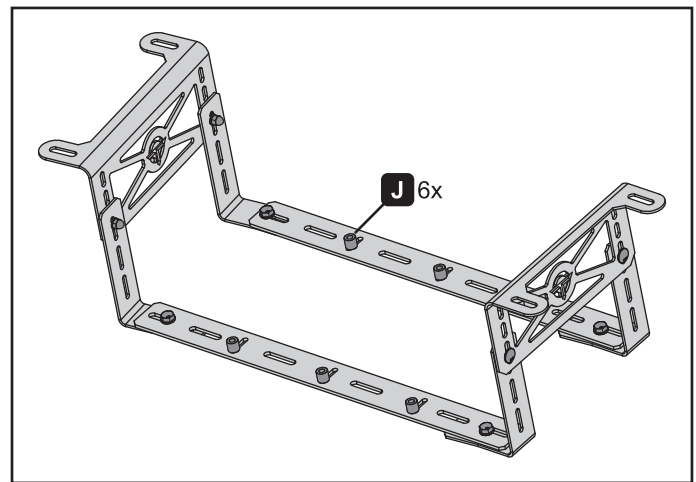

Figure 2.
9. Place the six spacers (J) on the crossbars, aligning each hole with the vertical slots (figure 2).